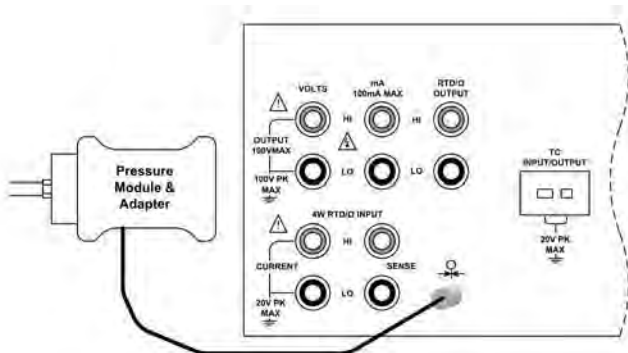

Figure 16 - Pressure Module Connection
- a) Connect the pressure module to the CL3001 as shown in figure 16.